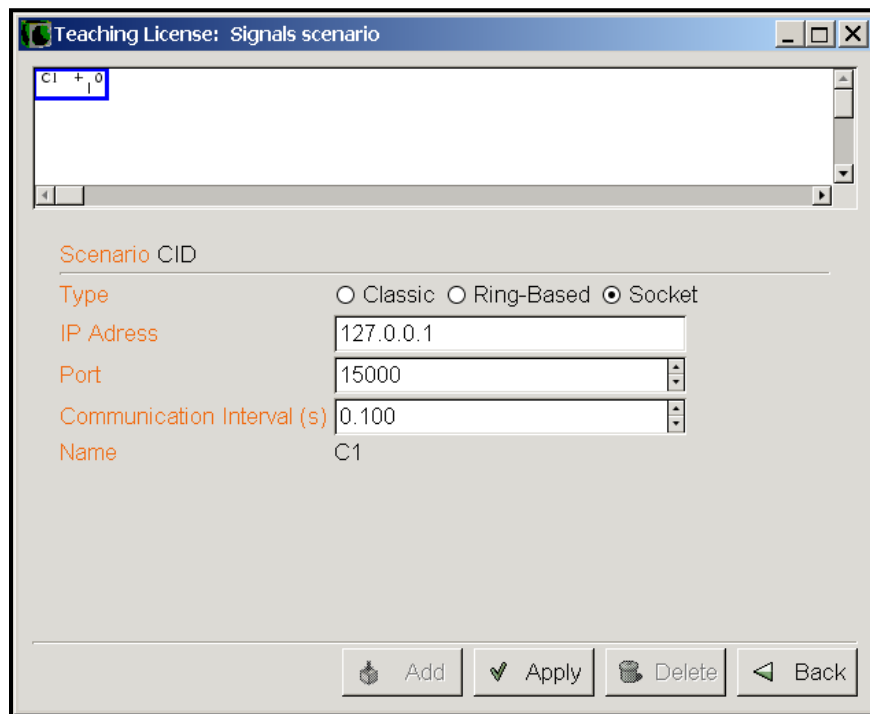

Figure 3.11. Signal Controller Parameters for Dynasim - ATACid Operation
1. The Dynasim controller to be simulated with the ATACid must be configured as a “Socket” type of controller (located under the “Signals” module). The recommended parameters for the HILS operation are illustrated in Figure 3.11. The IP address of “127.0.0.1” means that the localhost will be running the communication server. The port number must be a computer port not currently used/restricted by the computer (15000 should be a safe bet). The communication interval defines the frequency at which Dynasim and the ATACid will communicate (1-10 times per second).